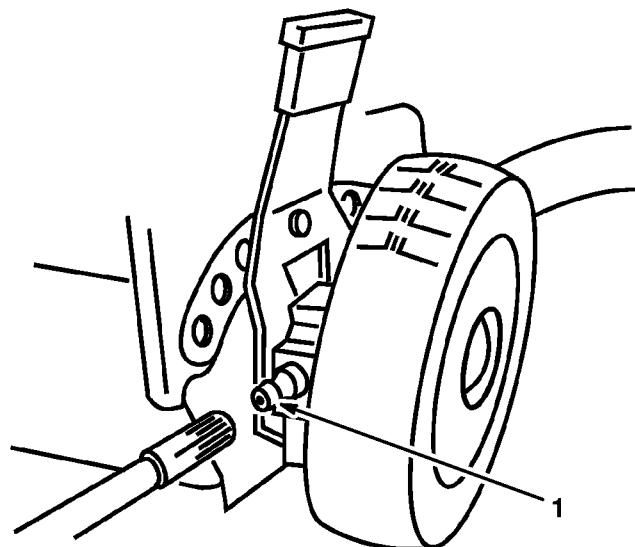

Figure 29
- Wipe grease fittings on rear height-of-cut adjustors (Fig. 29) with clean rag.